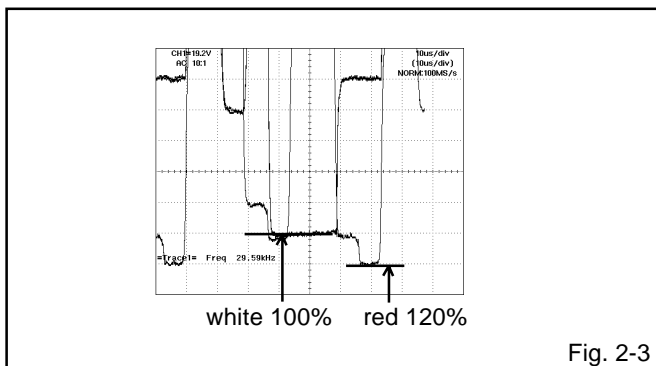

Fig. 2-3
7. Press the VOL. UP/DOWN button on the remote control until the red color level is adjusted to $120 \pm 10\%$ of the white level. **(Refer to Fig. 2-3)**